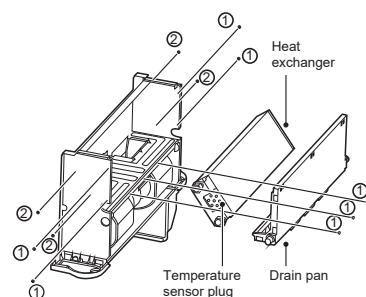

Figure 4-8 Removal of drain pan and heat exchanger
- g) As shown in Figure 4-8, remove screws ①\*7 to take the drain pan out. Then, remove screws ②\*4 to take the heat exchanger out.